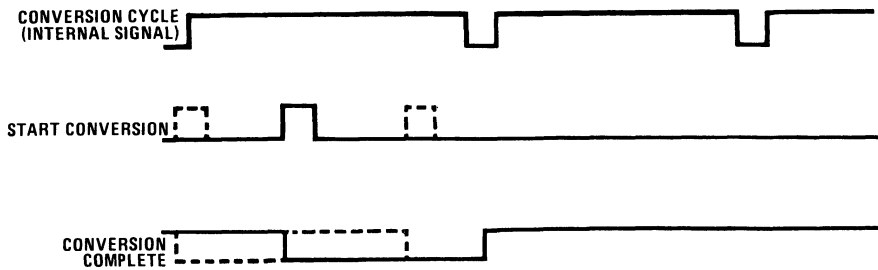

Figure 3. Conversion Cycle Timing Diagram Operating with Start Conversion Input
*Figure 3* gives the operation using the Start Conversion input. It is important to note that the Start Conversion input and Conversion Complete output do not influence the actual analog-to-digital conversion in any way.
An RS latch on the Start Conversion input allows a broad range of input pulse widths to be used on this signal. As shown in *Figure 3*, the Conversion Complete output goes to a logic "0" on the rising edge of the Start Conversion pulse and goes to a logic "1" some time later when the new conversion is transferred from the internal counter to the display latch. Since the Start Conversion pulse can occur at any time during the conversion cycle, the amount of time from Start Conversion to Conversion Complete will vary. The maximum time is  $64,512 \times 1/f_{IN}$  and the minimum time is  $256 \times 1/f_{IN}$ .